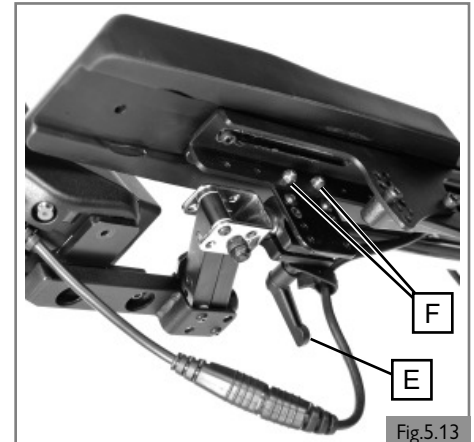

Fig.5.13
5.8 Joystick controller position (Fig 5.13)